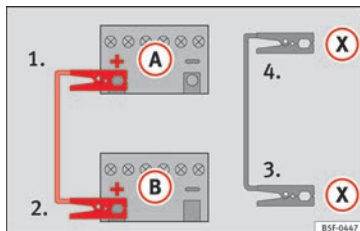

Fig. 190 Diagram of connections for vehicles with Start Stop system
- **For vehicles with Start-Stop system:** connect one end of the **black** jump lead (X) to a suitable ground terminal, to a solid piece of metal in the engine block, or to the engine block itself » » » **Fig. 190**.
5. Connect the other end of the **black** jump lead (X) to a solid metal component bolted to the engine block or to the engine block itself of the vehicle with the flat battery. Do not connect it to a point near the battery (A).